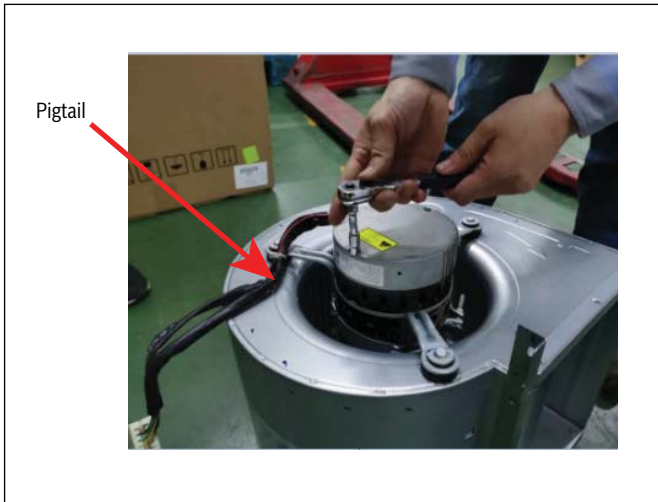

Figure 10
**i** The motor pigtail should stay in the direction shown in Figure 10. If turned 180 degrees, the wiring will be too short to connect to motor plug.